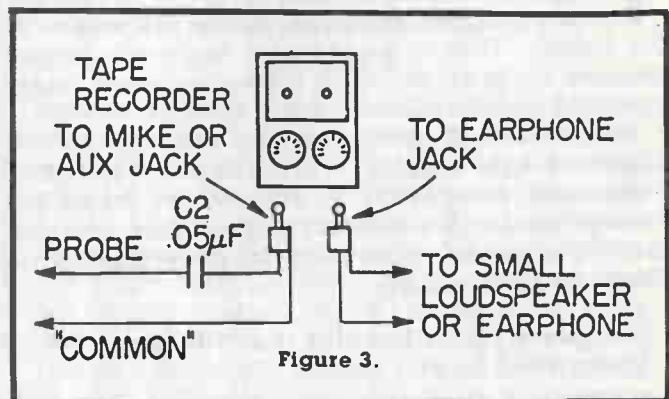

Figure 3.
While the circuit is useful for tracing the audio sections of an amplifier or receiver, you may also want to trace the radio frequency (RF) sections. This may be done by replacing the capacitor with a simple diode demodulator probe, a sketch of which is shown in Fig. 3.